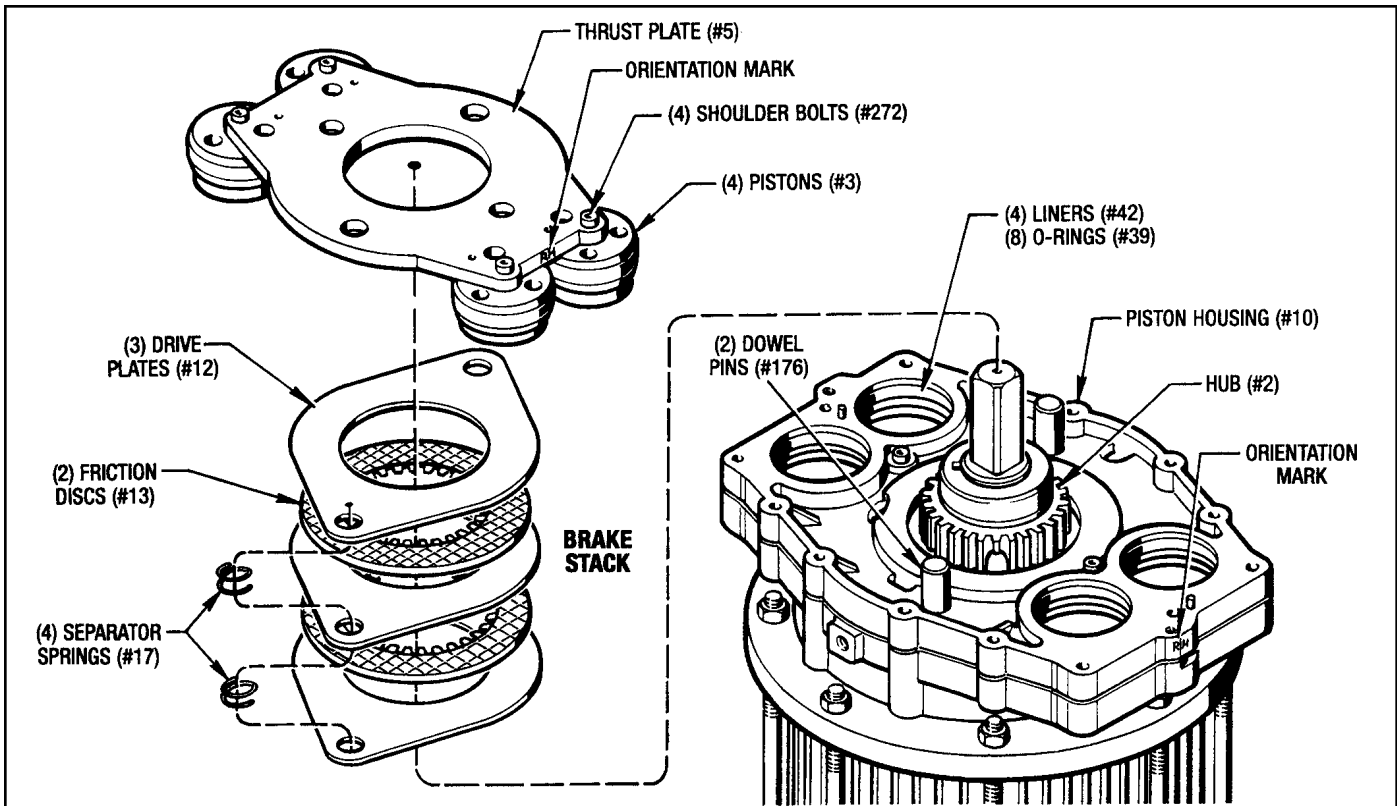

Figure 7.2 - Removing Thrust Plate, Pistons and Brake Stack
5. Pry the Thrust Plate and Piston Sub-Assembly straight up and out of the Piston Housing (#10). Be very careful not to damage the (4) Piston Liners (#42) in each of the piston bores. (See Figure 7.2)
IMPORTANT - Keep this Thrust Plate and Piston Sub-Assembly in the same orientation for reassembly. With a magic marker, mark one of the matching sides of both the Thrust Plate and the Piston Housing to help you at reassembly. (See Figure 7.2)
6. Remove the Brake Stack from the Hub (#2) spline and the (2) Dowel Pins (#176).
NOTE - The Brake Stack will consist of (3) Drive Plates (#12), (2) Friction Discs (#13) and (4) Separator Springs (#17). (See Figure 7.2)
1. If the (4) Pistons (#3) had to be removed from the Thrust Plate (#5) then re-attach the (4) new Pistons (#3) to the Thrust Plate (#5) with (4) Shoulder Screws (#272). **Use Red Loctite #271 and torque to 14 Ft. Lbs.**
2. Insert this Piston Sub-assembly into the Piston Housing (#10) as shown in Figure 7.2. **Be very careful not to damage the (4) Piston Liners (#42) in the piston bores.**
1. Make sure the I.D. of the (4) Liners (#42) and the O.D. of each Piston (#3) is well lubricated with oil or vaseline.
2. Also make sure that the orientation marks on the Thrust Plate (#5) and the Piston Housing (#10), which were made at disassembly, match up with each other. (See Figure 7.2)